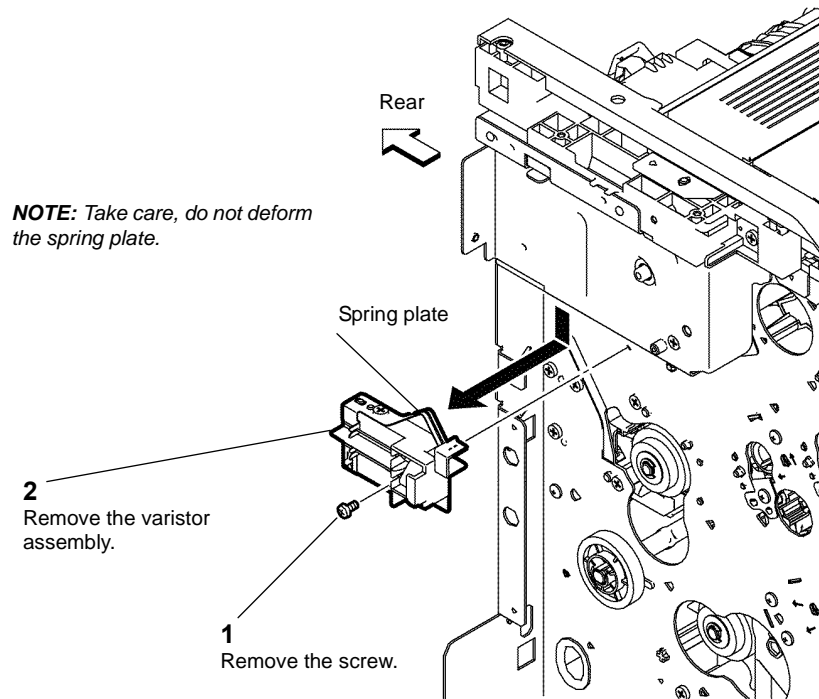

Figure 1 Remove the varistor
2. Remove the varistor assembly, Figure 1.